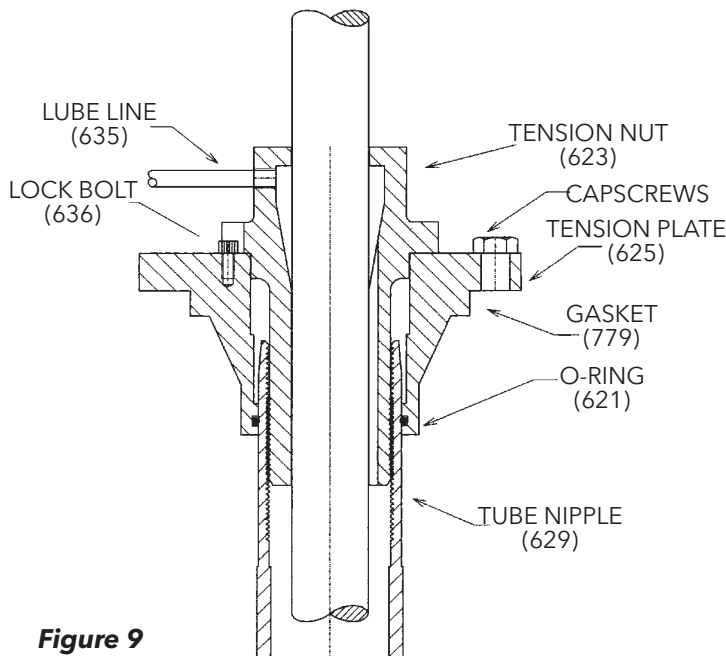
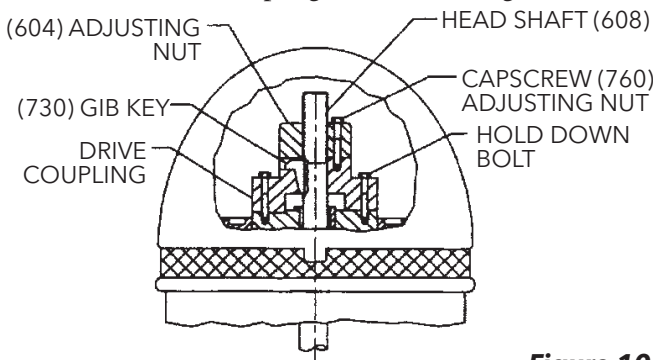

Figure 9
Figure 10
- (See Figure 10). Install capscrews (760) in the tension plate. Pour one pint of oil down the oil tube. **Note:** Factory assembled unit has no oil in it. Oil must added in the field.
- Install packing (620) in the tension plate and thread the tension nut (626), tightening it firmly against the packing.
- If a packed type tension nut (626) is used (for water flush), install packing (620), packing gland (618) and secure with stud (734) and nut (735). Screw nut finger tight. Install line assembly (635) and connect to flush liquid supply (see Figure 10).
1. The driving mechanism of all hollow shaft driver is shown on Figure 9. The head shaft (608) extends up through the quill or hollow shaft of the driver and is held in place by an adjusting nut (604), which not only carries all the static and hydraulic thrust of the impellers and shaft, but also provides the adjustment for the impeller clearances. The head shaft is connected to top shaft (or stub shaft) by a threaded coupling or a rigid flange coupling.
The coupling between the driveshaft and the head shaft may be a non-spacer type (see Figure 9), or a spacer type (see Figure 10). The latter is used on pumps furnished with a mechanical seal to permit servicing of the seal without removal of the driver.
- If the pump is supplied with an adjustable spacer coupling (see figure 10), install spacer (612) between head shaft and driveshaft hubs. Secure with capscrews (759) and hex nuts (735).
- With the impellers touching the bottom of the bowls, turn the adjusting plate (613) towards the driver hub (610) or spacer (612) obtain 0.015 inch clearance between the adjusting plate and driver hub or spacer for the first 10 feet of column. Add 0.010" for each additional 10 feet of column. See figure 10 or 11. **Note: The determination of driver shaft end play can be critical and should be added to this setting. For larger pumps over 8", this amount may be too little; please refer to Outline Drawing.**
- After impeller adjustment, align adjusting plate (613) with the pump hub (614), and tightly draw coupling flanges together with capscrews (759) and nuts (735). (See figure 9 and 10).